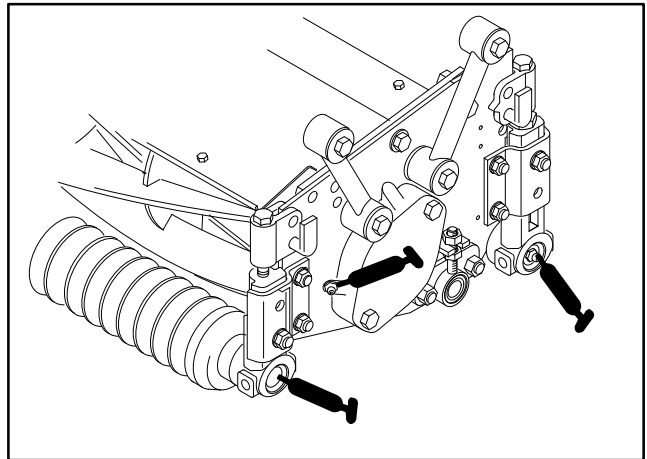
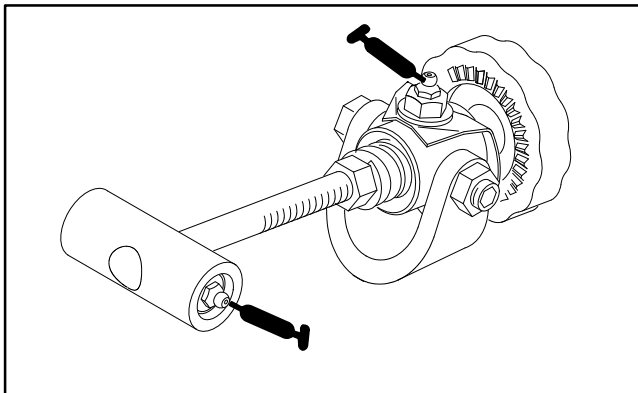

Figure 7
Figure 6
1. The grease fitting locations and quantities are: Bedknife adjuster (2), every 50 hours (Fig. 6); Reel bearings (2) and front and rear rollers (2 ea.) (Fig. 7)